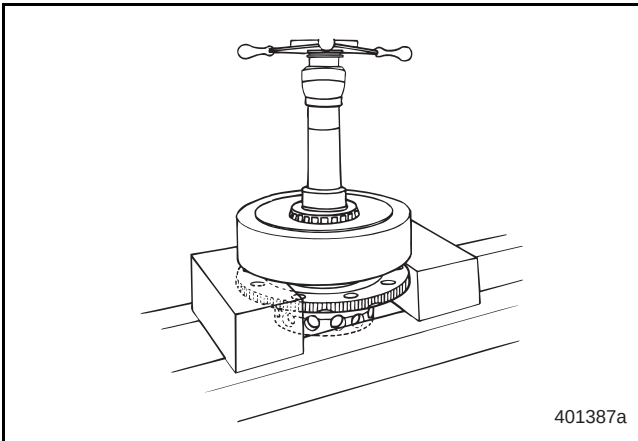

Figure 78 — Removing Bearing Cone from Driving Cage
12. If inspection reveals the need to do so, replace the bearings on the inner wheel power-divider driving cage and side casing using a hydraulic press and the appropriate segment and adapter rings. Press the bearing off the inner wheel power-divider driving cage as shown in Figure 78. Refer to the Special Tools Chart on page 130 for the correct segments and adapter rings.